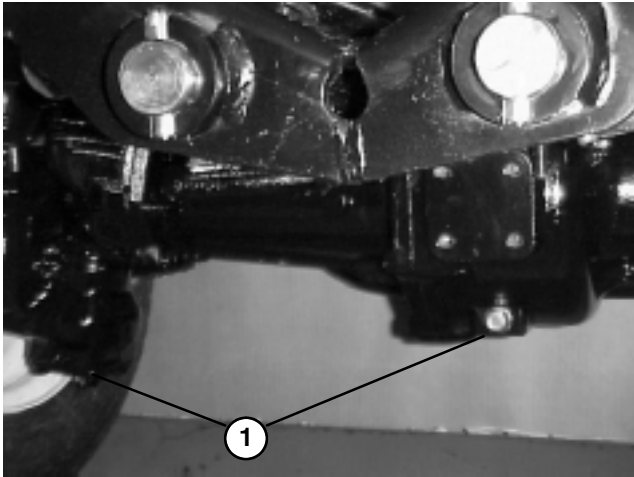

Figure 64
2. Clean area around the (3) drain plugs, (1) on each end and (1) in the center (Fig. 64).